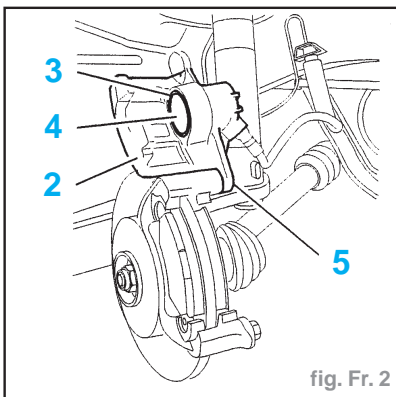

fig. Fr. 2
- Faire pivoter l'étrier (2) (fig. Fr. 2).